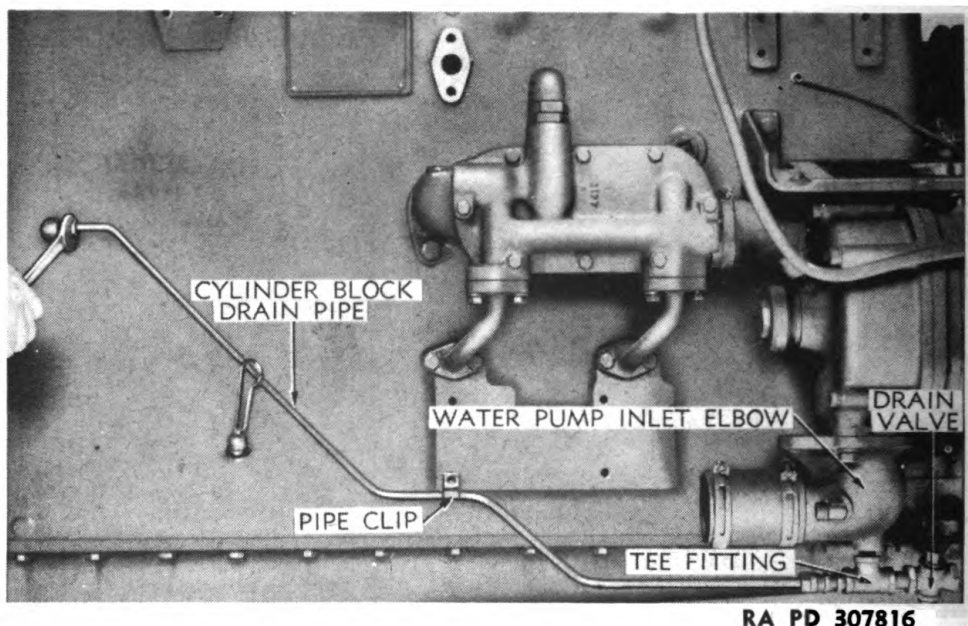

Figure 12 — Removing Cylinder Block Water Drain Pipe
i. Remove Cylinder Block Drain Pipe. Disconnect pipe from fitting in side of cylinder block (fig. 12) and from fitting on water pump inlet elbow and remove pipe.